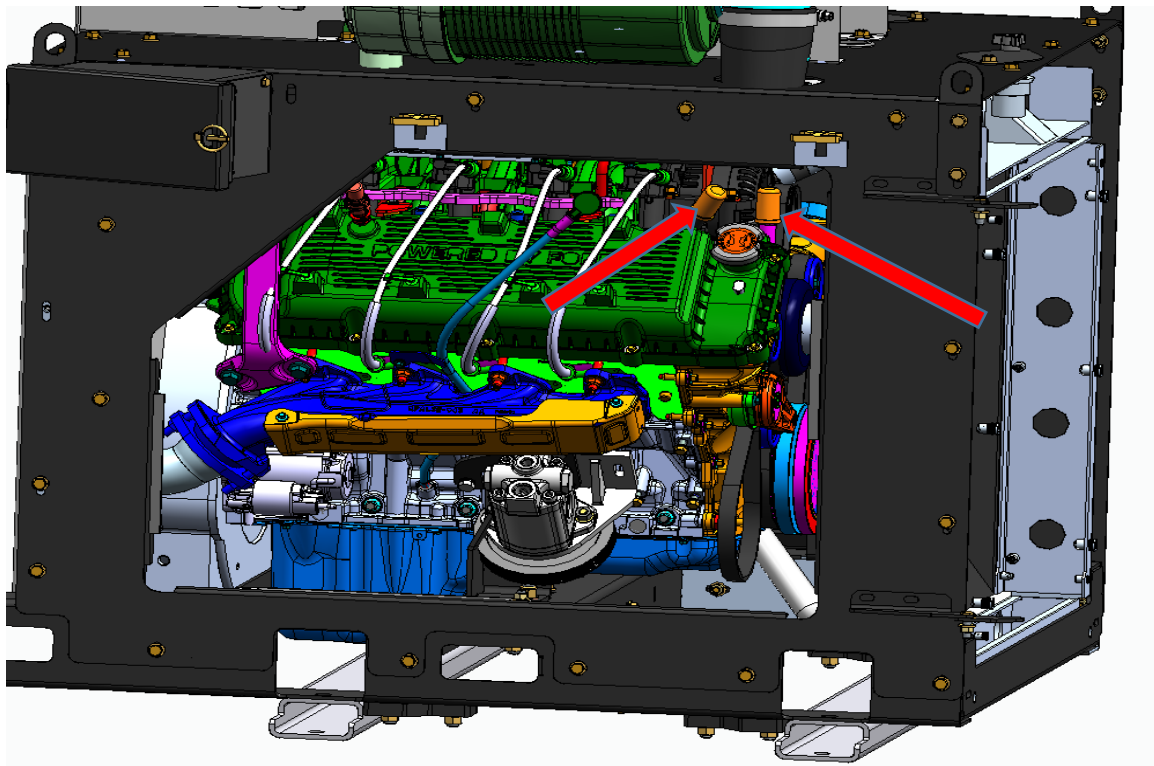

Figure 8
- 1) Install Gates hose (29119-061) on the inlet and outlet of the water pump. Remove side panel of engine enclosure. Openings of both hoses should be visible slightly above and behind the header of the 6.2L Ford engine (See Figure 8).